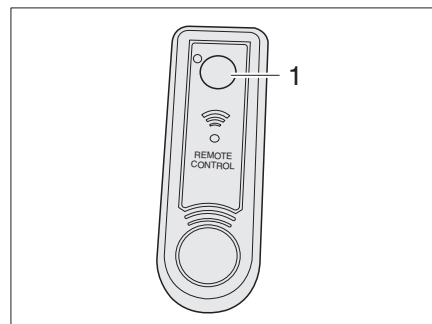

Fig. 47 Remote control for lamp in pop-up roof
■ Press the button (Fig. 47,1) to switch the light on and off.